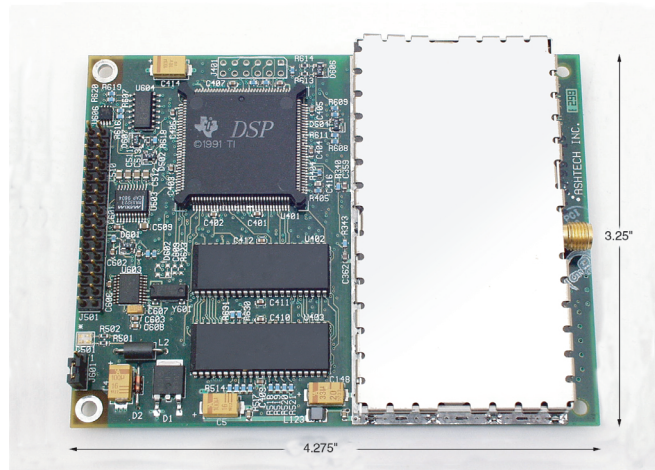

Figure 1.1. GG12 Receiver
The horizontal dimensions of the GG12 receiver are shown in Figure 1.1. Functionally, the GG12 has two major sections: the radio frequency (RF) section, which decodes incoming GPS signals, and the digital section, which converts the decoded information to a digital format and then processes it.